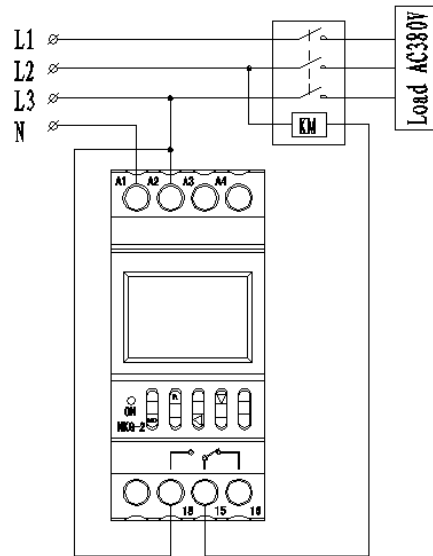

Figure 5
- b) The coil voltage of the controlled contactor is AC 380V 50Hz, so its wiring method sees Figure 5.